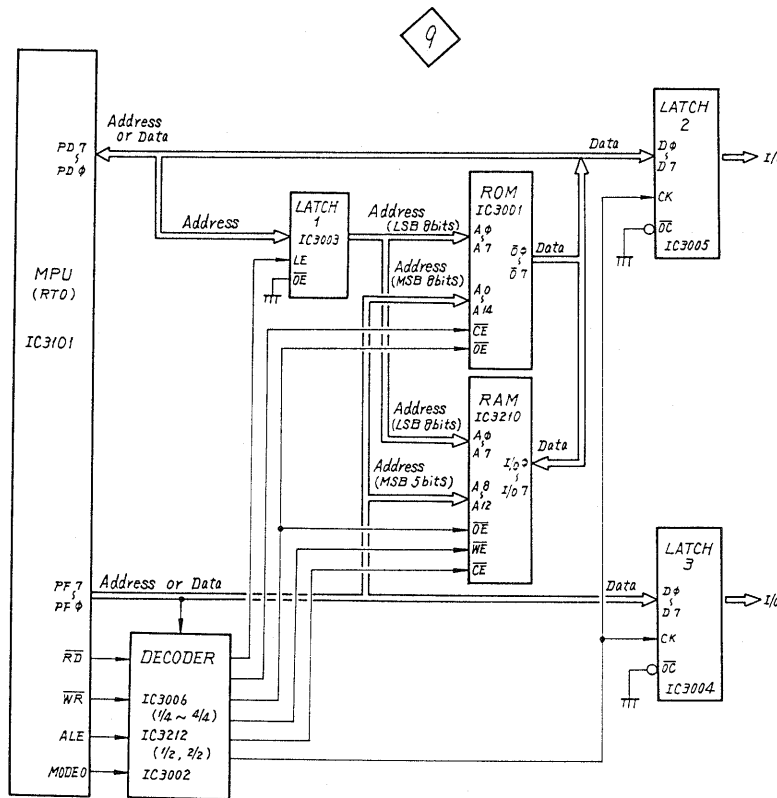
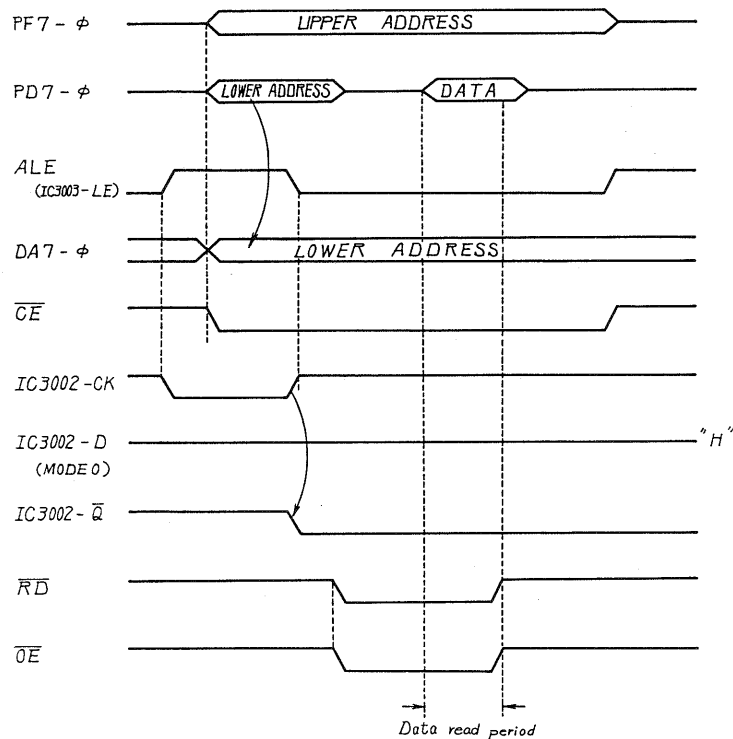

Fig. 5-12
Fig. 5-13
The description on the MPU for the RTO and its peripheral circuits and the control circuit of information on characters and cursors is as follows. Refer to schematic diagrams $\diamond 9$ and $\diamond 10$, detailed block diagram Fig. 5-17, block diagrams Figs. 5-12, 5-15 and 5-16, timing charts Figs. 5-13 and 5-14.
A digital control signal is fed out from port PC0 as an S-DATA (serial data), sent to the four shift registers* in Fig. 5-12, and fed out as bit information.
3. Read of programs and transmission of data (Refer to Fig. 5-12.)
The decoder to which \overline{RD} , \overline{WR} , and ALE signals are input determines the IC to be selected from ROM, RAM and latch circuits. Fig. 5-12 illustrates the above description.
(1) READ of ROM (Figs. 5-13 and 5-17)